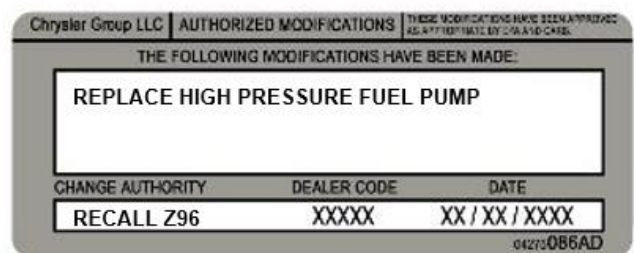

Figure 202 – Authorized Modifications Label
1. Type or print (with a ballpoint pen) the necessary information shown in (Figure 202) onto the authorized modifications Label.